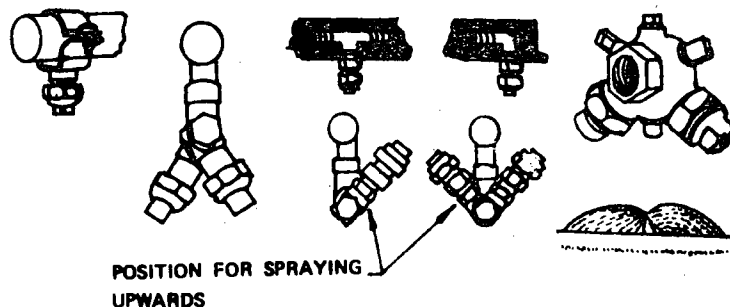

Fig. 3
- connection of nozzles to boom; the direction of the spray depends on it: vertical, slanted or upward (Fig. 3).